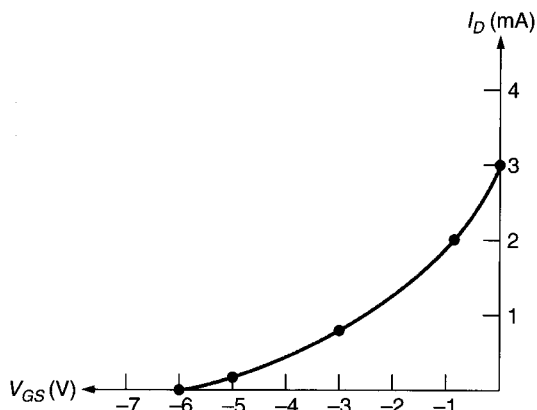

FIGURE 12.11
The points representing these combinations are now plotted and connected to form the curve shown in Figure 12.11.
**Lab Reference:** A curve similar to the one in Figure 12.11 is plotted using measured values in Exercise 16.